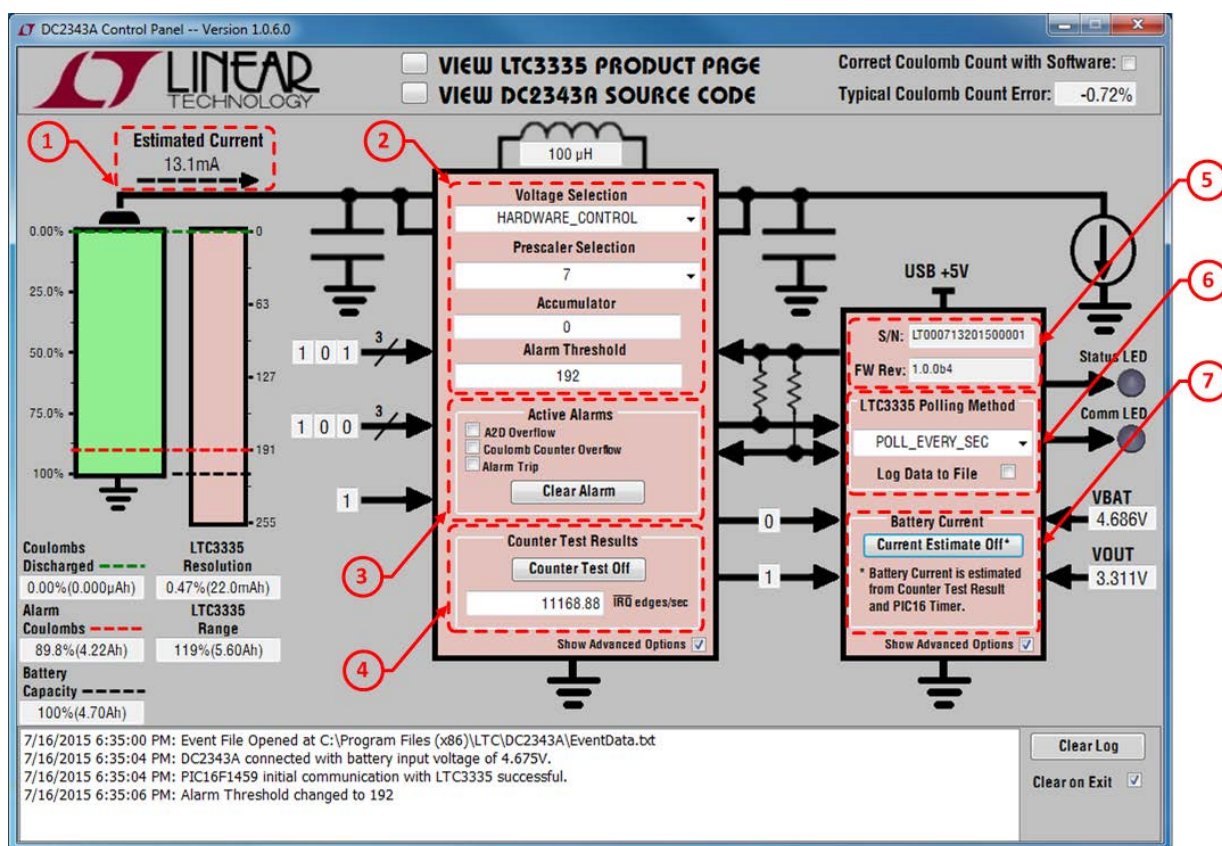

Figure 12. Control Panel Window—Advanced Options
7. The GUI can also show an estimated battery current. In order to demonstrate that GUI feature. Activate the battery current measurement feature described in Figure 12, item 7. In order to implement this feature, the PIC16F1459 on the DC2343A counts edges on the $\overline{\text{IRQ}}$ pin over time, which can then be converted to coulombs per second.
5. Checking this box will expose additional controls for the LTC3335. See the control panel advanced mode in Figure 12.
7. Checking this box will expose additional controls for the PIC16F1459. See the Control Panel Advanced Mode in Figure 12.
When the Show Advanced Options checkbox is selected for the LTC3335 and PIC16F1459 on the control panel, several additional controls are exposed to the user. These controls are in Figure 12.